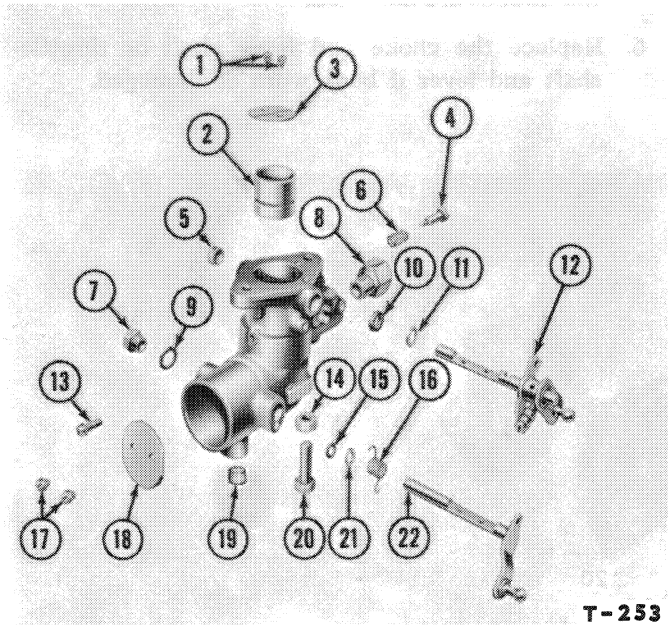

Figure 5—Carburetor Disassembled—Early Type
Make certain that all fuel is burned out of the fuel tank lines, pressure reduction components and carburetor before removing the carburetor. Refer to Figures 5 or 6 for parts identification.
1. Remove the two throttle plate retaining screws and lock washers (1), Figure 5. Remove the throttle plate (3) from the throttle shaft and lever (12).
1. Install both fuel adjustment screws (4) and (20), Figure 5, in their respective orifices using the lock nut (14) on the main adjustment screw and spring (6) on the idle fuel adjustment needle.
2. Position the venturi (2) into the carburetor body so that the step in its counterbore faces upward.
Place a new seal retainer (11), Figure 5, over the seal and drive it gently into position with a blunt tool, not over $\frac{7}{16}$ inch in diameter. The retainer should be $\frac{1}{8}$ inch below the top of the
4. If the throttle shaft plug (5), Figure 5, has been removed, press a new plug into the bore. Tap it lightly with a hammer until the top of the plug is flush with the casting.
5. Install the throttle shaft and lever (12). Secure the throttle plate to the shaft with two screws and lock washers (1).
6. Place a new choke seal (15) into the shaft bore and position the retainer (21) over the seal. Assemble the choke return spring (16) loosely on the throttle shaft and lever (22). Install the choke shaft in the carburetor.
7. Position a new gasket (9), Figure 5, on the choke shaft plug (7) and install the plug in the carburetor.
8. Install the choke plate (18) on the choke shaft (22) with two screws and lock washers (17). Hook the choke return spring over the choke lever at one end and attach the other end to the screw provided in the boss, just under the choke lever shaft.